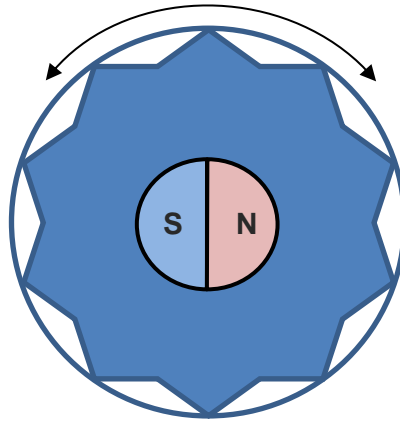

Figure 4-1: Discrete Mechanical Intervals
Figure 4-1 illustrates an example wheel with 10 intervals. The IQS624-32 can be configured to generate an event on each interval. Configure the following registers for setup:
4. The interval register will increment every 36 degrees. If the wheel is zeroed using discrete mechanical intervals (Figure 4-1), half an interval should be added to the Wheel Zero Offset (0x7E-0x7F). With this offset, the interval register should increment when the wheel has moved half of the interval as shown by B in Figure 4-1.